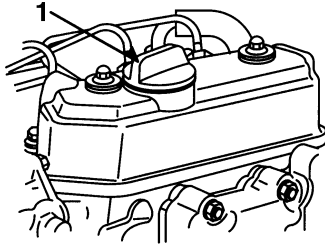

Figure 26
6. Remove the oil filler cap (Fig. 26) and refill the engine with a high-quality, CD class engine oil (see viscosity chart).